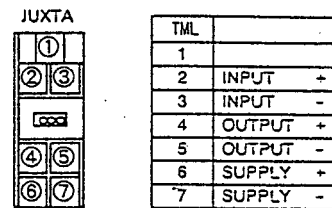
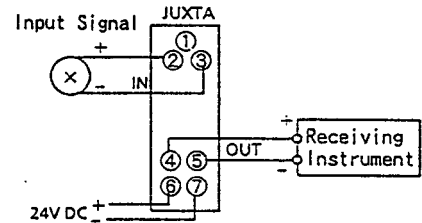

Fig. 8: Terminal Arrangement
Fig. 9: Wiring Diagram
- ① See Fig. 8 for terminal arrangement.
- ② Connect input signal cable to transmitter terminals 2(+) and 3(-).
- ③ Connect transmitter output signal cable to its terminals 4(+) and 5(-).
- ④ Connect 24V DC power cable to transmitter terminals 6(+) and 7(-). (See Fig. 9)
- ① Make sure that 24V DC power cable of the transmitter is connected with the correct polarities (+) and (-).
- ② Confirm that the external wiring to the terminal board is correct.
- ③ Check that the mounting, ambient temperature, humidity, dust and vibration are normal.